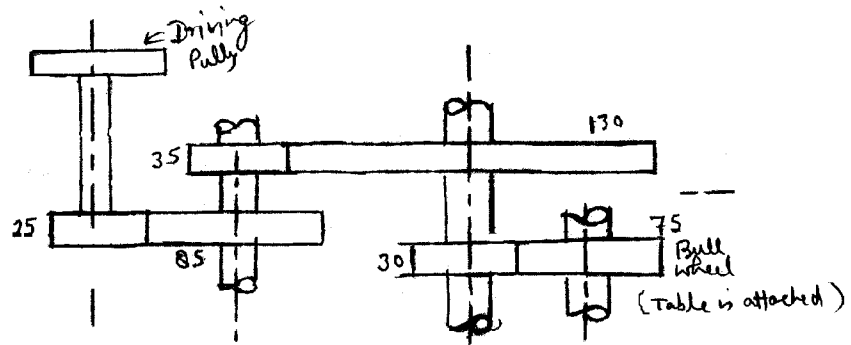

Fig. 3
- (c) **Figure 3** shows the gear train arrangement to drive a planning machine. The driving pulley is driven at 360 rpm by an electric motor keyed to the same shaft as this pulley is a 25 tooth pinion driving an 85 tooth gear wheel which is fixed to the same shaft as 35 teeth pinion. This pinion drives a gear wheel that has 130 teeth, fixed to the same shaft as this gear wheel is a 30 teeth pinion which drives a bull wheel. This bull wheel has 75 teeth and meshes with a rack that is bolted to the underside of the table. The pitch of the rack teeth is 25 mm. Calculate the bull wheel speed and the table speed.